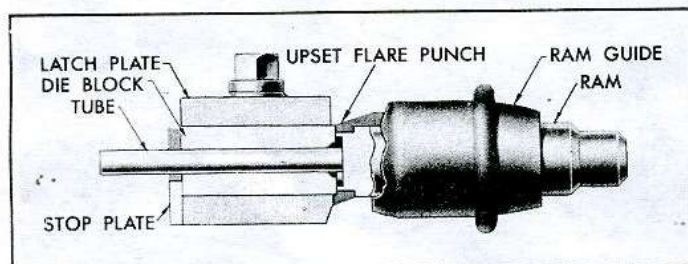

Fig. 10—Flaring Operation—Positioning Tubing
5. Select the correct size upset flare punch. One end of this punch is counterbored or hollowed out to gauge the amount of tubing necessary to form a double lap flare. Slip the punch into the tool body with the gauge end toward the die blocks. Install the ram; then tap lightly until the punch meets the die blocks and they are forced securely against the stop plate (fig. 10).